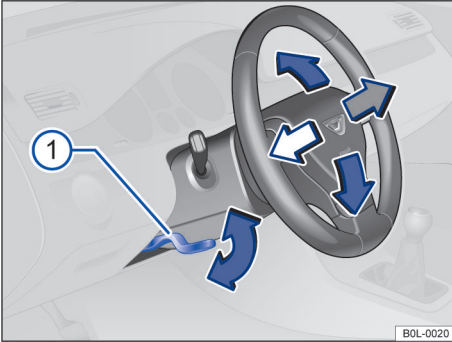

Fig. 53 On the steering column trim plate under the steering wheel: Control handle for mechanically adjusting the position of the steering wheel
- Push down handle → Fig. 53 ①.
- After adjusting the steering column, be sure to push the handle → Fig. 53 ① up to lock it to prevent the steering column from shifting by itself during running.